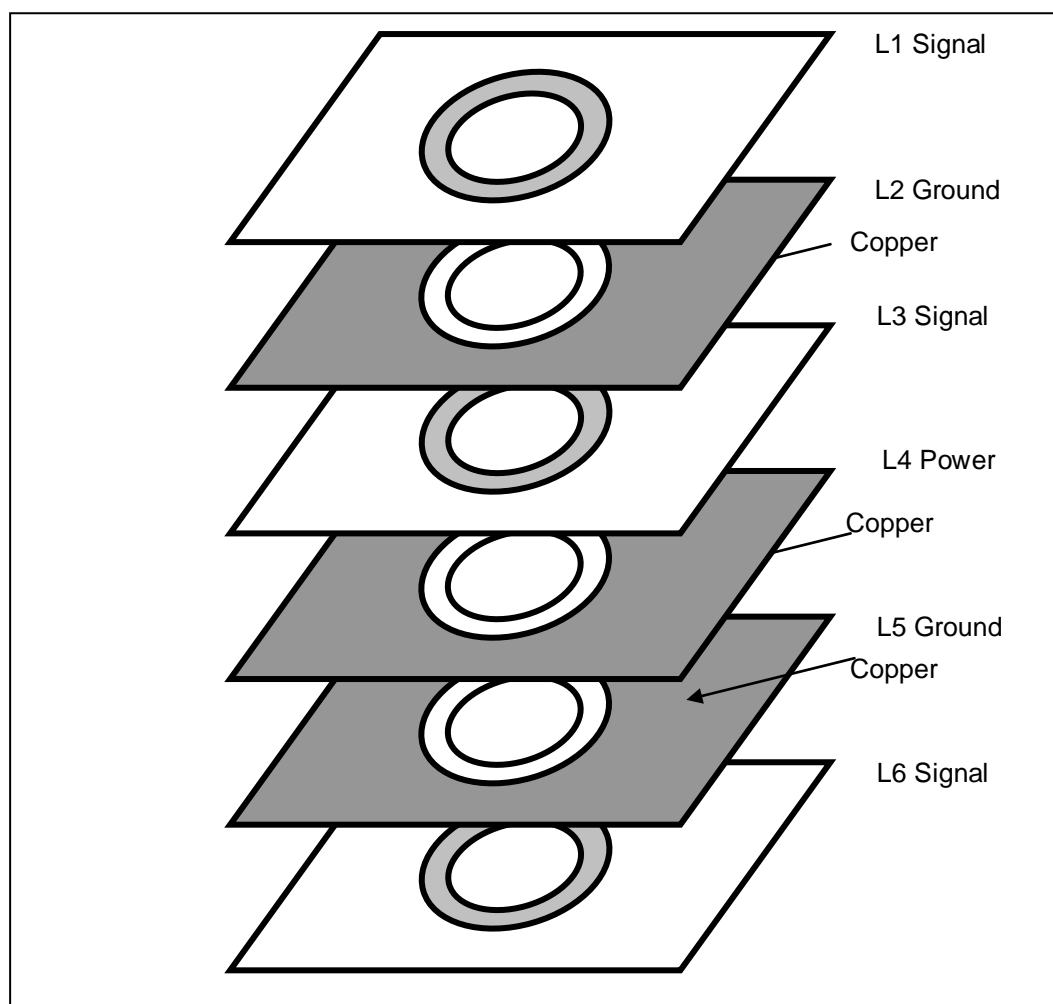

Figure 2-2 PCB Technologies – Stack-Up
- The minimum Stack-up required six layer stack. There must have a ground layer to separated two signal layers. Just as describes in Figure 2-2.